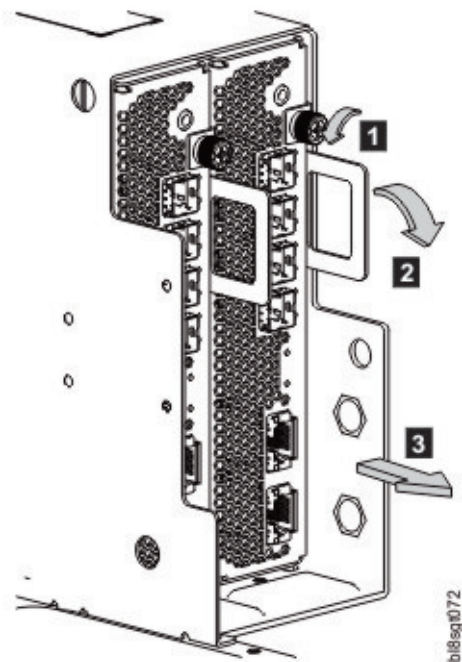
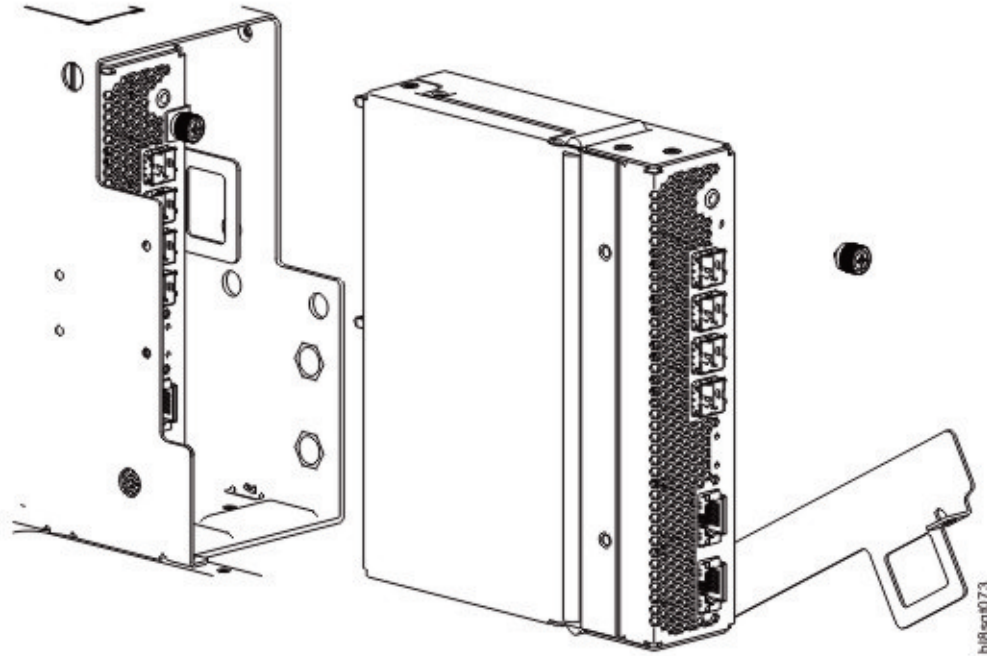

Figure 75. Removing an IOM/EBOD expander module (1 of 2)
Figure 76. Removing an IOM/EBOD expander module (2 of 2)
3. Unlock the IOM/EBOD expander module latch handle by turning the thumbscrew counter-clockwise as shown in detail No.1 in Figure 75 on page 79.
4. Grasp the IOM latch handle between the thumb and index finger and pull. Revolve the handle out and downward to lever the IOM/EBOD expander module out of the enclosure as shown in details No.2 and No.3 in Figure 75 on page 79.
5. Grip the latch handle and ease the IOM/EBOD expander module forward from the slot as shown within Figure 76 on page 80.
Note: When performing the following procedure, refer to Figure 76 on page 80 and Figure 75 on page 79 while ignoring the directional arrow. For installation, the IOM/EBOD expander module will travel in the opposite direction relative to the arrow shown.